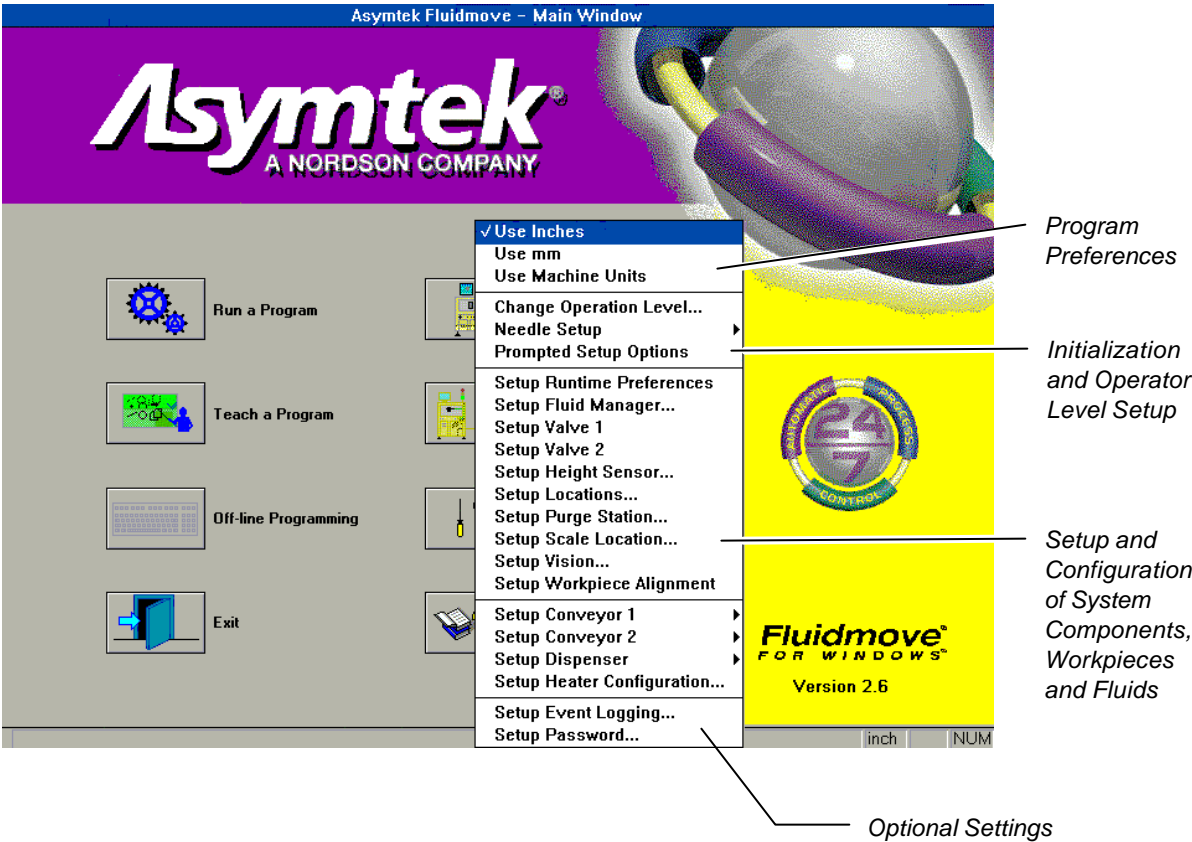

Figure 3-5
- ➔ Click on Configuration in the Main Window to access the drop-down Configuration menu shown in Figure 3-5.